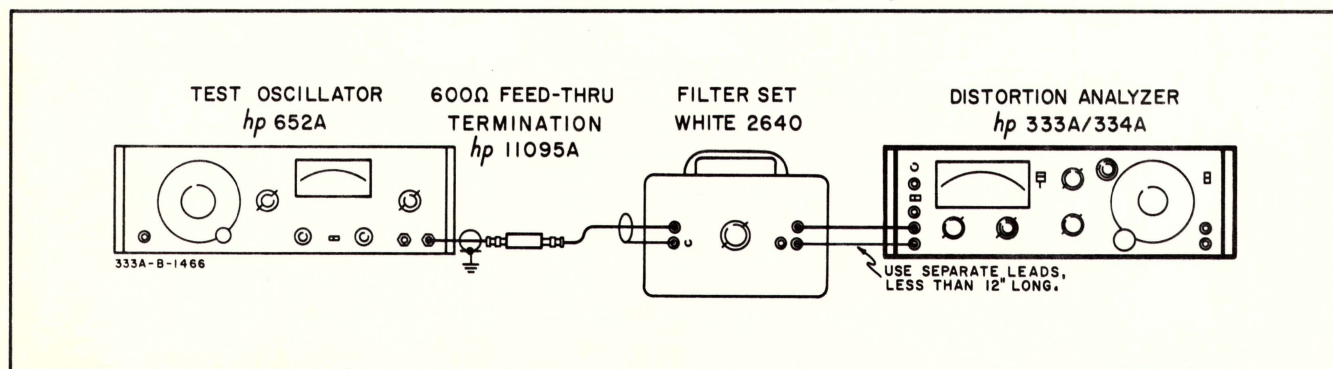

Figure 5-2. Instrument Induced Distortion Check
- a. Connect test equipment to 333A/334A as shown in Figure 5-2. Set filter pass frequency to 500 Hz.